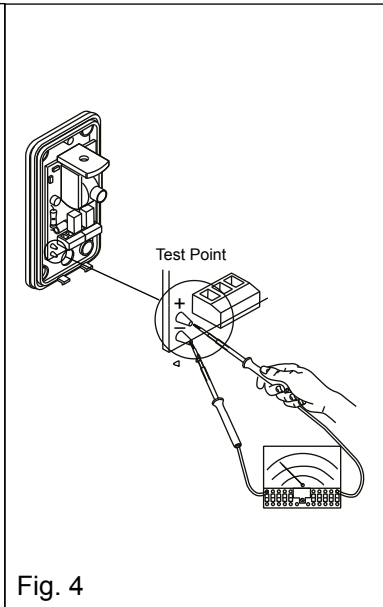

Fig. 4
- 3- Align the eyes using a DC voltage meter on the test point (Fig. 4). The meter should read 0.4V or higher when aligned. Confirm the red LED on the receiver is off and turns on when beams are blocked.